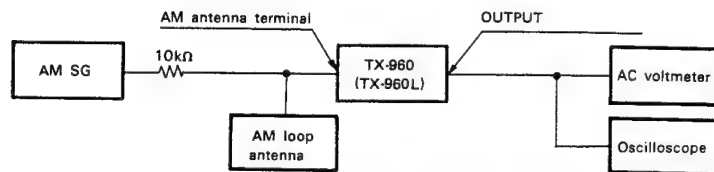

Fig. 11-2. AM adjustments connection diagram
- Connect up as indicated in Fig. 11-2.
- Press the AM (LW) key to set AM (LW) mode.